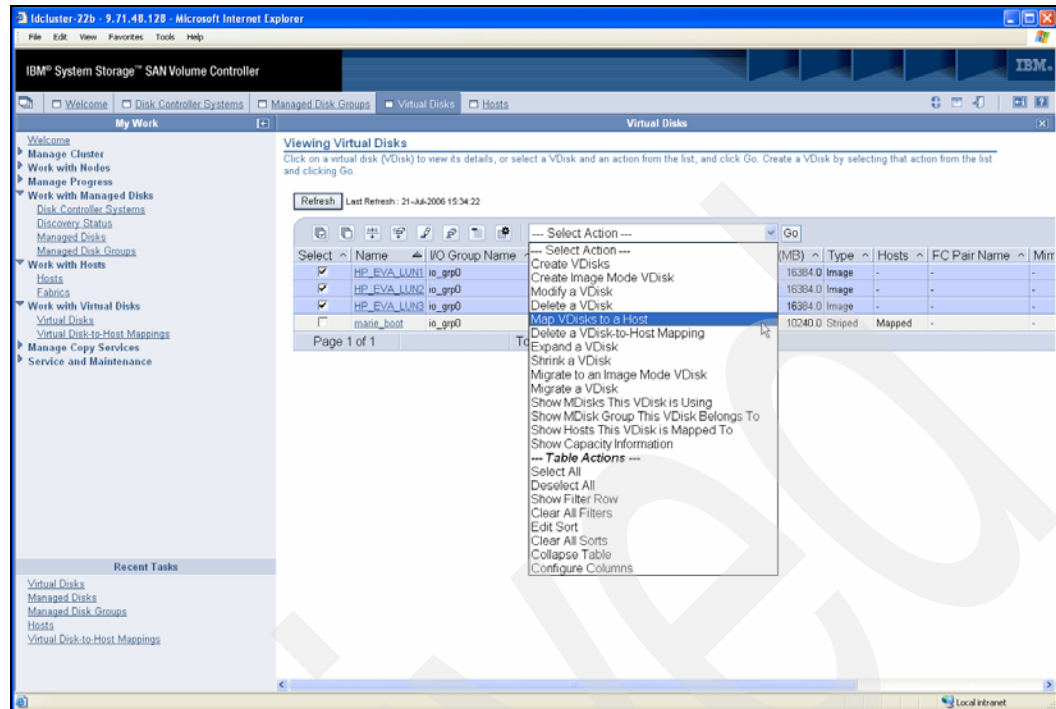

Figure 7-22 Map VDisks to host
3. On the next panel (Figure 7-22) check the boxes in the **Select** column for all the VDisks you want to map to the host. In our example, this is the first three VDisks listed. Select **Map VDisks to a Host** from the drop-down menu as shown in Figure 7-22.